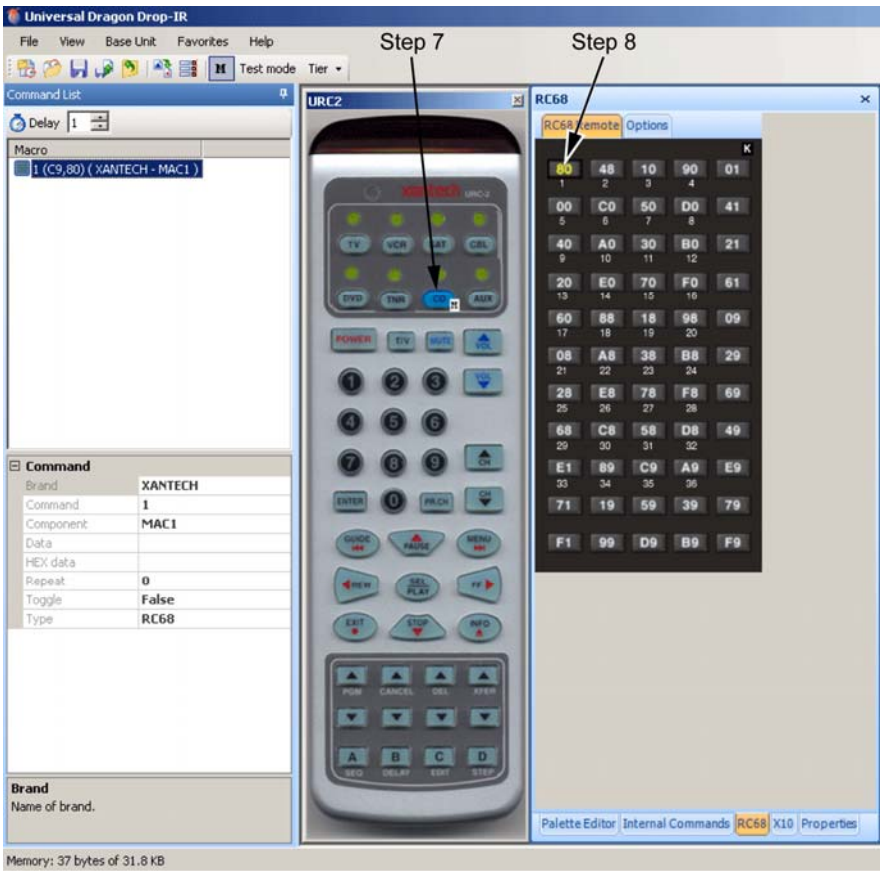

Figure 44 – URC-2 RC68 Macro Trigger Programming
7. Click the **button** on the **virtual URC-2** to be used to trigger the **Macro Sequence** created on the **SPLCD**. (i.e. CD Button as shown in **Figure 44**.)